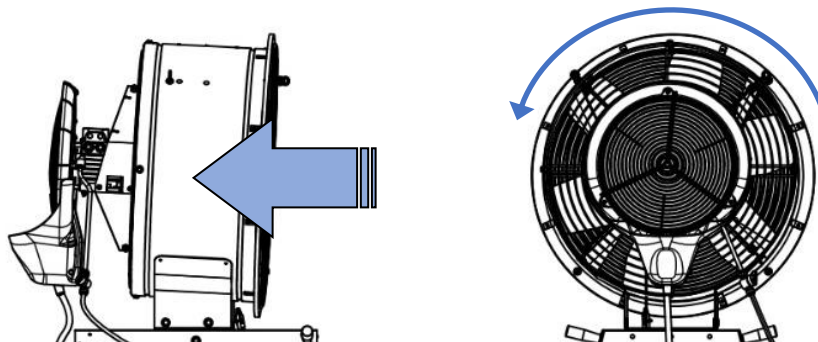

Fig. 3.2.3
- Check the correct direction of air flow and disc rotation. (Fig. 3.2.3)